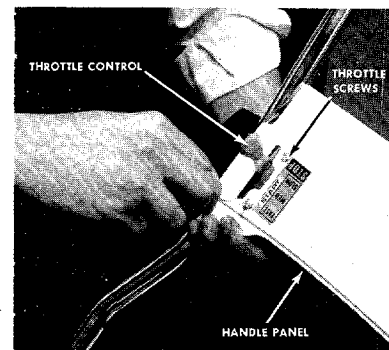

FIGURE 5.
7. Place the throttle control in the handle panel and assemble it with two throttle screws using a screwdriver. See figure 5.